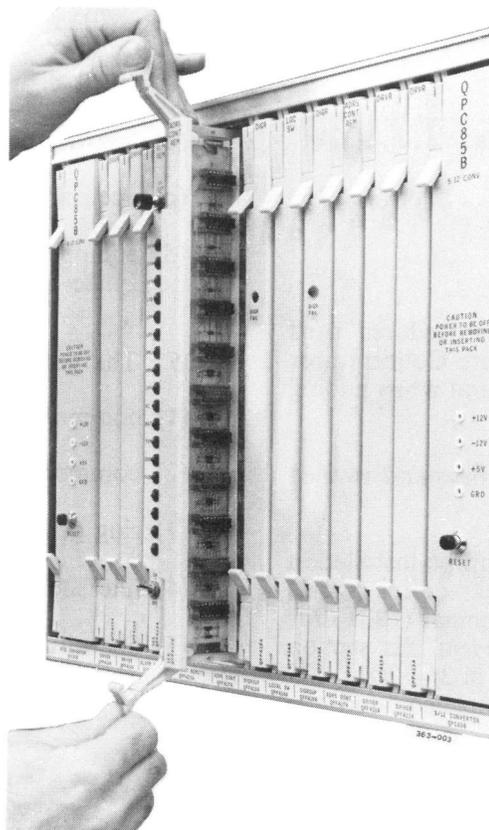

Fig. 1 — Installing Circuit Packs on a RCT Shelf
1.08 A circuit pack is installed (Fig. 1) by: